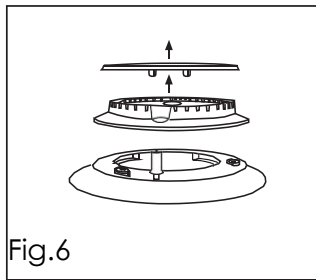
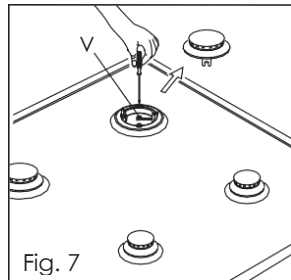

Fig. 6
Fig. 7
- Remove the grids, remove burners and flame-spreaders (see fig. 6), unscrew the visible screws "V" placed on the work-top (see fig. 7). Disassemble the work-top by